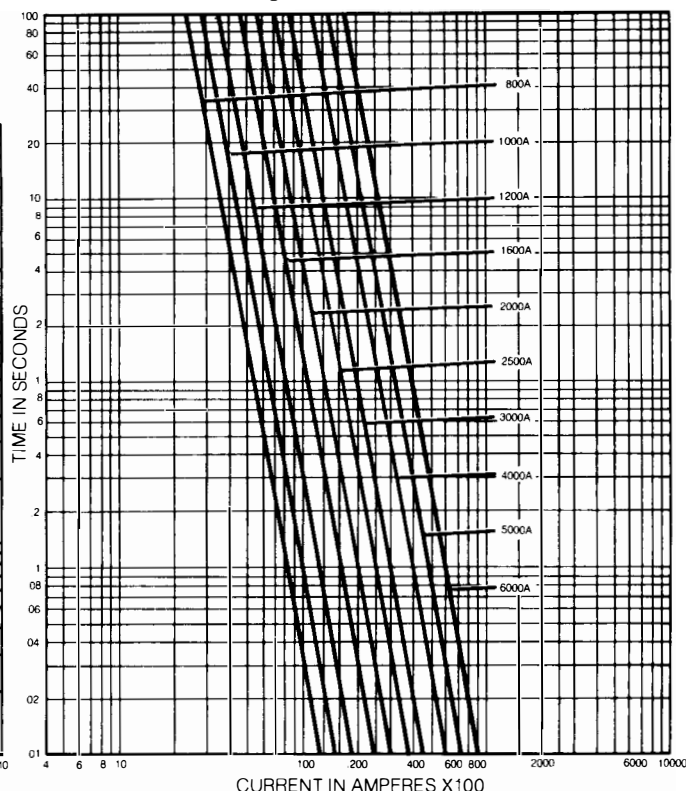

Figure 41. Fuse Time-Current Characteristic.
2. Coordination between a fuse and the static trip device. The melting time of a fuse should be at least double the total clearing time of the breaker at the current level where the static trip device transfers to instantaneous pickup. Refer Figure 41, for melting characteristics.